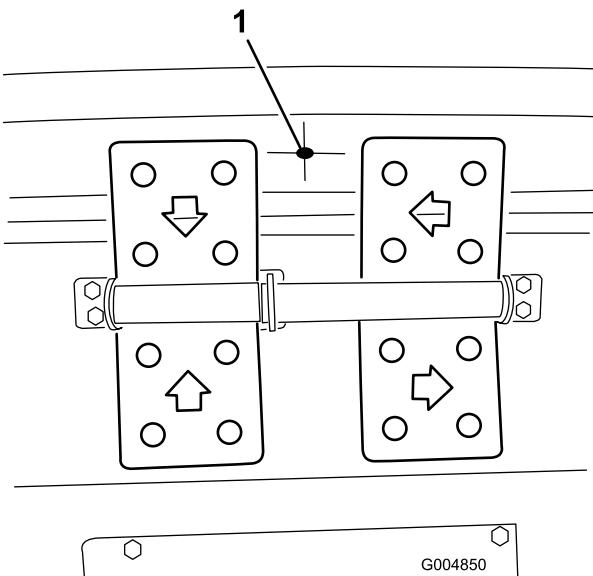

Figure 72
1. Locate, mark and drill a .281 inch diameter hole in the front wall of the cab as shown in Figure 72. The hole is to be located approximately in the center of the cab wall (side to side and up and down)